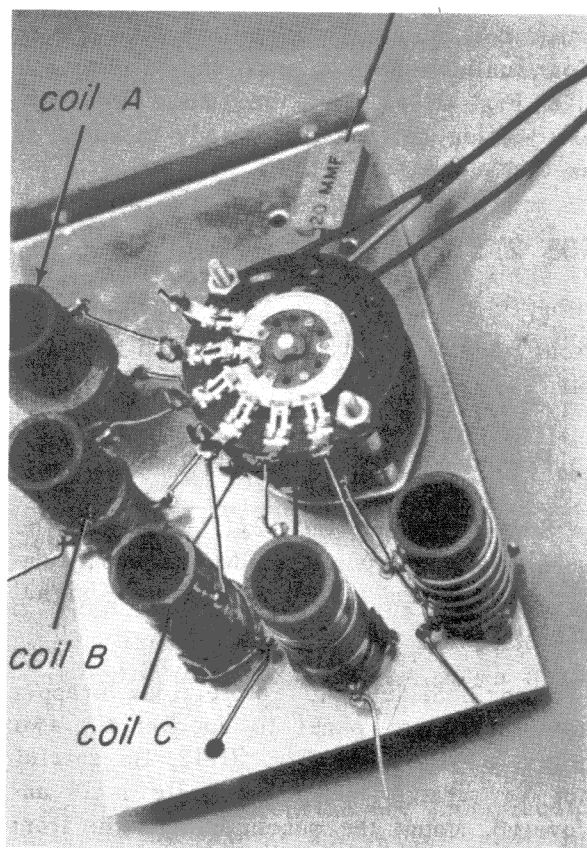

Fig. 21-8
Step 3. Mount coil C as shown in Fig. 21-8. Connect the wire from coil terminal 2 to switch lug A₃. Connect the wire from coil terminal 1 to switch lug B₃. Solder both connections.
Step 4. Mount coil B as shown in Fig. 21-8. Connect the wire from coil terminal 2 to switch lug A₄. Connect the wire from coil terminal 1 to switch lug B₄. Solder both connections.
Step 5. Mount coil A as shown in Fig. 21-8. Connect the wire from coil terminal 2 to switch lug A₅. Connect the wire from
coil terminal 1 to switch lug B_5 . Solder both connections. Your plate should now look like Fig. 21-8.